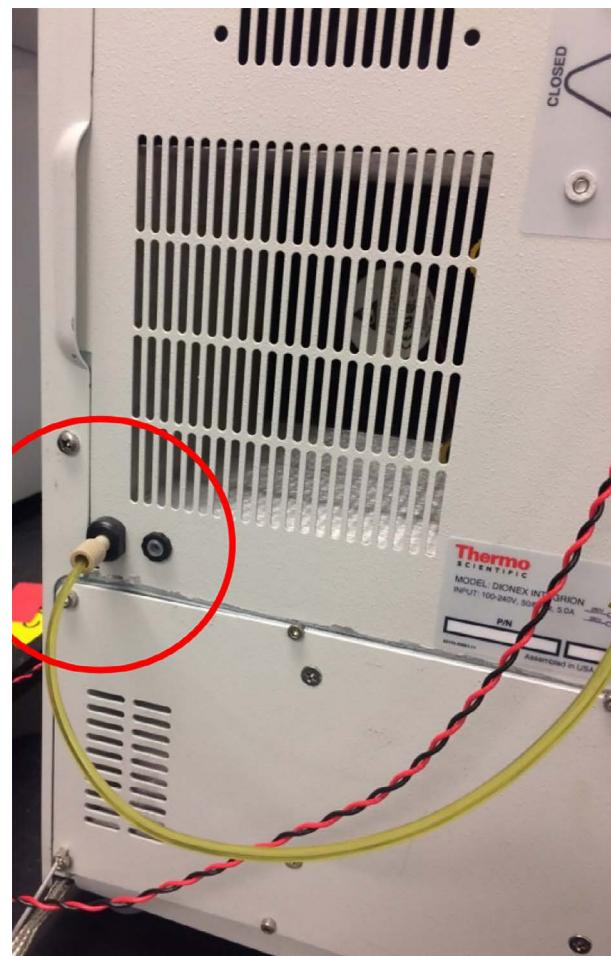

Figure 4. Installing the vacuum connection on the Dionex Integrion HPIC system.
Hydroxide eluents produced by eluent generation require inline vacuum degassing to achieve the optimum conditions for electrochemical detection. Vacuum degassing is accomplished by connecting the vent line of the degas module to the vacuum pump port on the back of the instrument (Figure 4). In the Dionex Integrion HPIC system configured with an electrochemical detector (ED), the vacuum pump connector is pre-installed, eliminating the manual installation previously required.
To assist in degassing the eluent, install a $\frac{1}{4}$ " i.d. air tubing from the EG Degas module (P/N 075522) vent port to the vacuum connection in the back of the Dionex Integrion HPIC system (Figure 4). The degasser pump will turn on again for a short time to re-establish the vacuum. If the degasser pump stays on for longer than 1 min, tighten the fitting (Figure 4) $\frac{1}{4}$ turn.